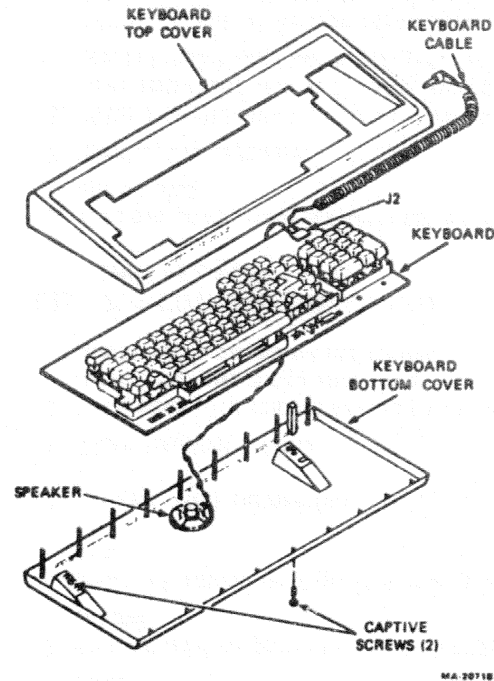

Figure 5-10 Keyboard Disassembly
3. With a blade-type screwdriver, loosen the captive screws holding the keyboard together (Figure 5-10).